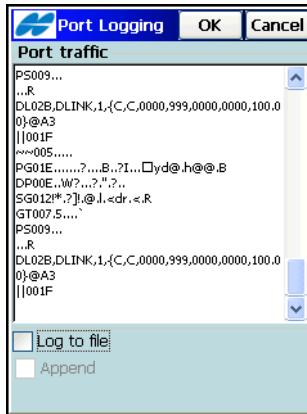

Figure 2-8. Port Logging
1. The **Port Logging** screen (Figure 2-8 on page 2-9) initially shows no data. Tap the *Help* Icon in the upper-left corner of the screen to open a pop-up menu and select one of the following options: